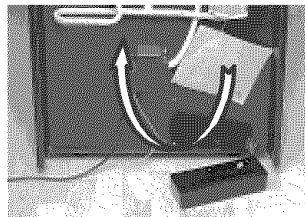

FIG 3a
5. Attach the drip tray on the back as shown in FIG 3a, 3b, 3c. The screws are already attached at the back.